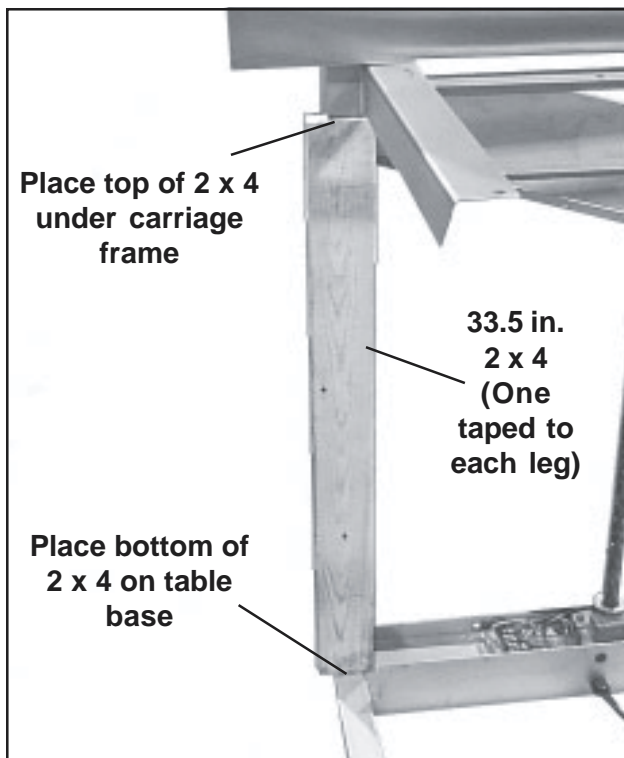

Figure 25. 2 x 4 Taped to Table Leg
6. Tape two 33.5 in. long 2 x 4s to the table legs. Each 2 x 4 should fit between the base of the table and the bottom of the carriage frame (Figure 25). Use any kind of tape as long as it holds the 2 x 4s firmly in place (electrical tape, fibre tape, duct tape, etc.). **Note:** Do not place the lower ends of the 2 x 4s inside the utility box where they might damage internal components or wiring.